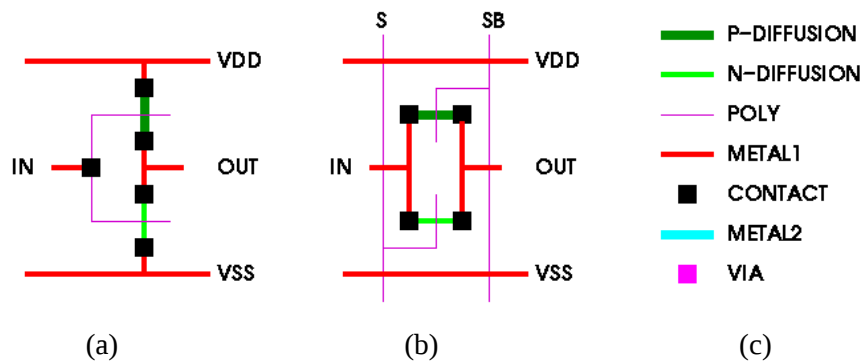

Fig.L2.1 (a) Stick diagrams of inverter and (b) transmission gate, and (c) the legend of this stick diagram
- a. Design an inverter and a transmission gate whose stick diagrams are as shown in Fig.L2.1. Make sure that the height of these cells is the same ($< 40\lambda$), and make the cells as small as possible. You can take advantage of the inverter in Lab1 to create the transmission gate because both the transmission gate and the inverter have one PMOS and one NMOS. Modify the inverter in Lab1 to create the transmission gate. Of course, you can use the inverter itself for Lab3.